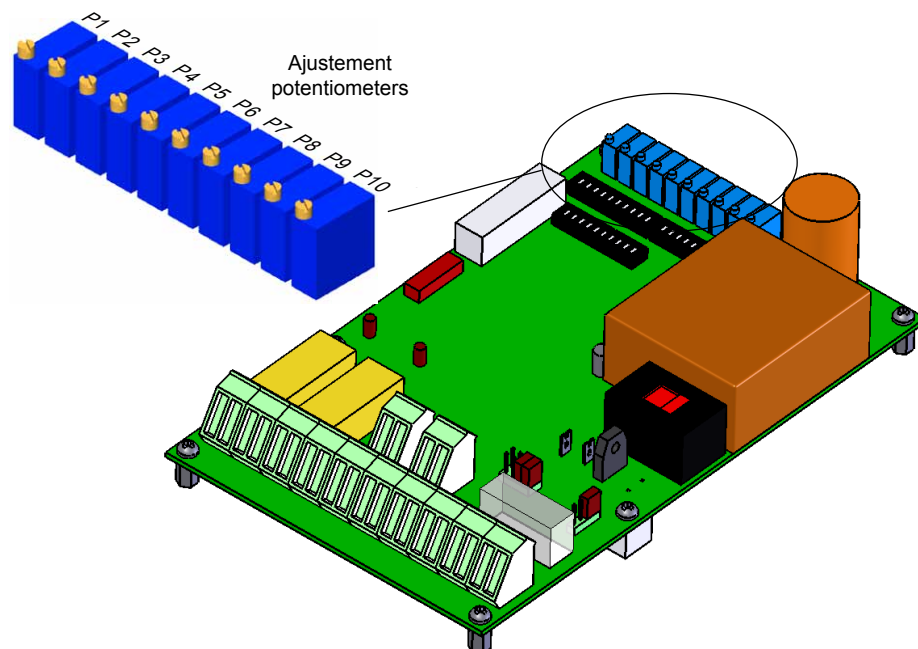

Fig. 3-1 Location of the potentiometers on the load monitoring unit board
2. Adjust the potentiometers P6 and P7 to get a reading of $0\text{ V} \pm 10\text{ mV}$ on the millivoltmeter. *Figure 3-1* indicates the location of the potentiometers P1 to P10.
2. Adjust the potentiometer P9 to obtain a reading of $U_{O/P \text{ level1}}$ with an accuracy of ± 20 mV. *Figure 3-1* indicates where the potentiometers P1 to P10 are located.
2. Adjust the potentiometer P9 to obtain a reading of $U_{O/P \text{ level2}}$ with an accuracy of ± 20 mV. *Figure 3-1* indicates where the potentiometers P1 to P10 are located.
2. Adjust the potentiometer P9 to obtain a reading of $U_{O/P \text{ level}3}$ with an accuracy of ± 20 mV. *Figure 3-1* indicates where the potentiometers P1 to P10 are located.